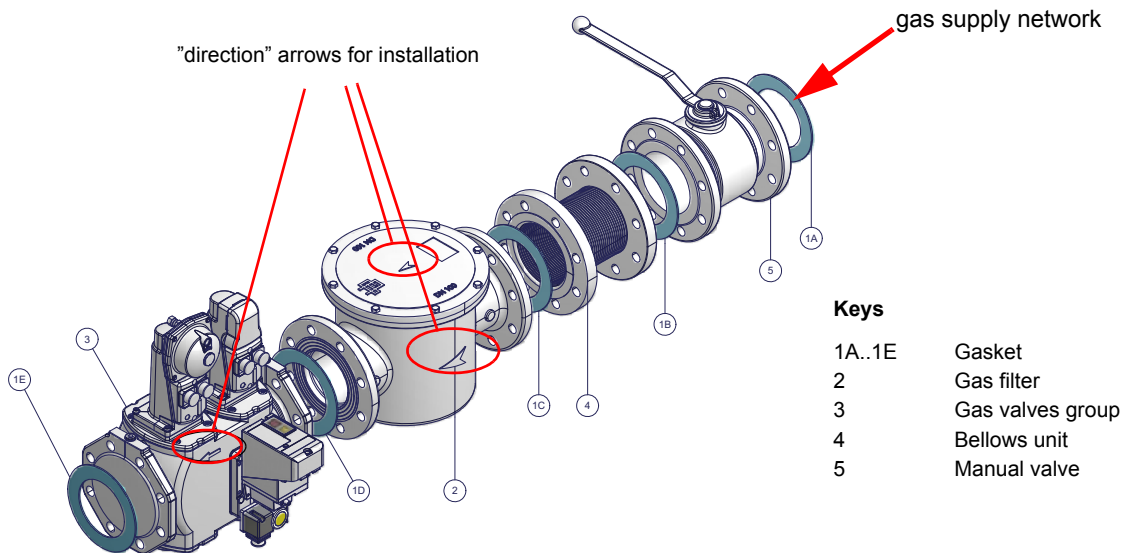

Fig. 4 - Example of gas train
1-b) in case of flanged joints: place a gasket (no. 1A..1E - Fig. 4) between the elements
**ATTENTION:** once the gas train is mounted according to the diagram on Fig. 4, the gas proving test must be performed, according to the procedure set by the laws in force.